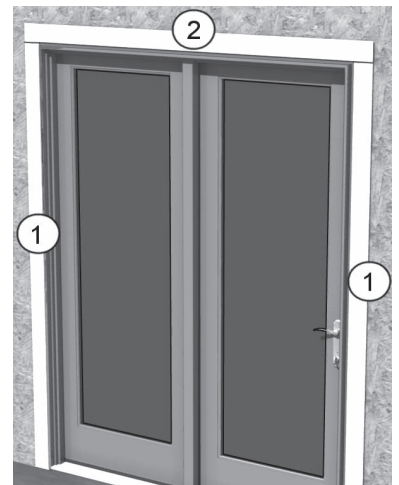

Figure 17
**1q) (Recommended)** Following the flashing manufacturers' recommendations, apply flashing to the nail fins and surrounding wall surface starting with the sides, then the top, creating a shingle effect (figure 17).